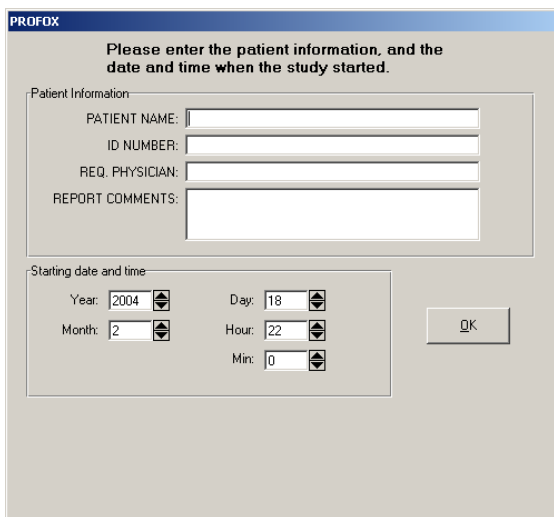

Figure 36. Profox: Select Patient Information
8. If the name that appears in the Confirm Name dialog box is not correct, enter the correct patient details in the Select Patient Information box (seen in Figure 36, below).